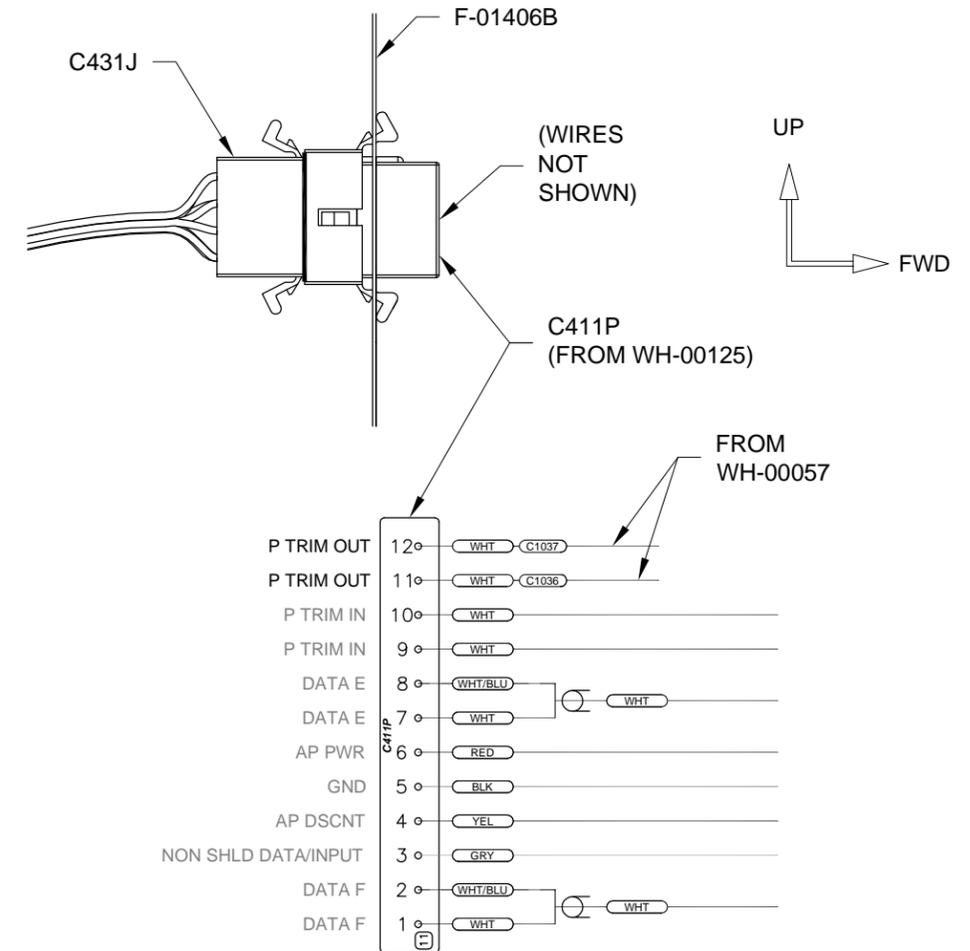

FIGURE 2: INSERT WIRES INTO RV-14 COMMON FUSELAGE HARNESS
Step 8: Route C431J forward along the right side of the F-01429-R Bellcrank Rib and connect it to C411P as shown in Figure 1 and Figure 2.